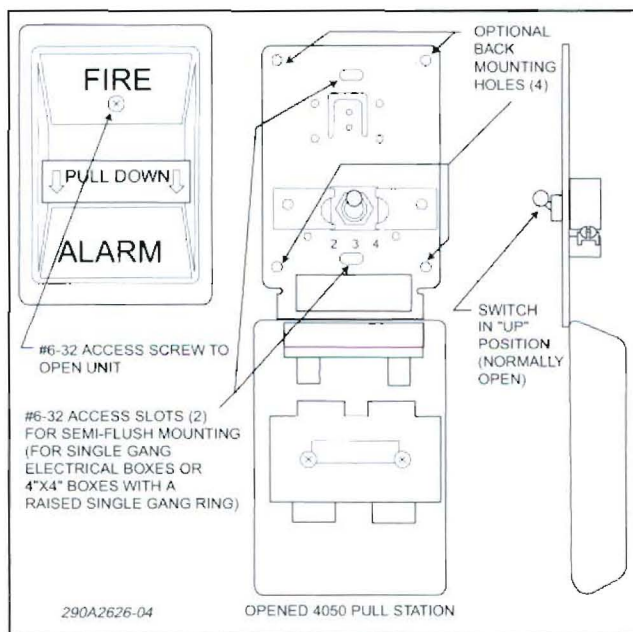

Figure 4.
Property damage, serious injury or death could occur in the protected premises if you do not follow the correct closing procedure. Before closing the station, ensure that the switch is in the "up" (normally open) position (see figure 4), and that the mounting screws do not interfere with the internal mechanism and closing of the station.
a. Semi-flush Mounting (see figure 4).
b. Surface Mounting (see figures 4 and 5).